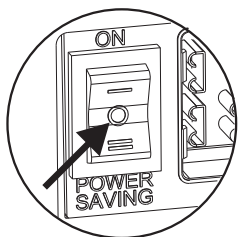

Figure 1
- Before installing the AC Master make sure the main switch is set to the OFF ("0") position (figure 1).